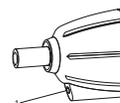

Figure 4
The Cordless Screwdriver is equipped with a LED light (1) (Fig. 4). The light will automatically turn ON when the switch is pressed. It will also turn OFF when the switch is released.